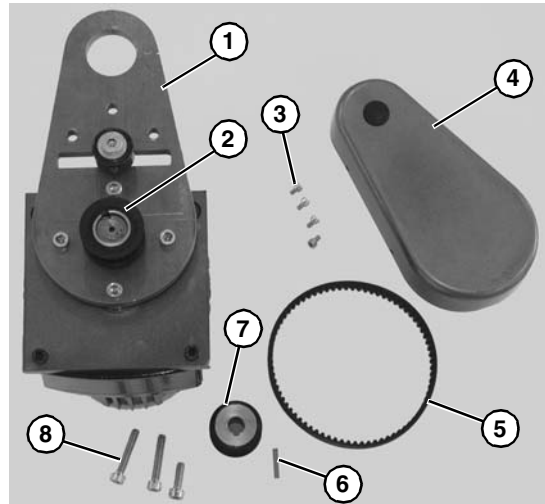

Figure 4
1. Gather components (Figure 4)
Type 1 mounting package shown (Figure 4), Type 2 mounting package similar.